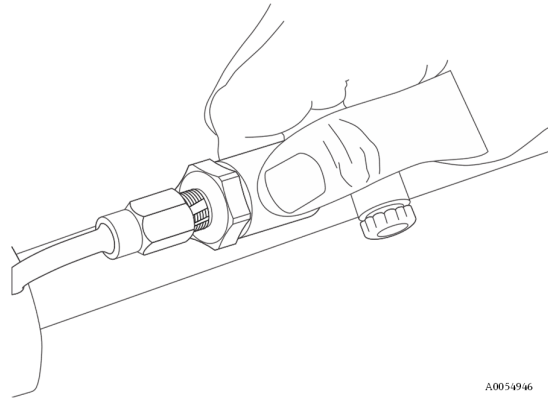

Figure 36: Replacing pressure sensor
17. Hand tighten pressure sensor clockwise into the flange until no longer moving freely. Refer to Figure 36.